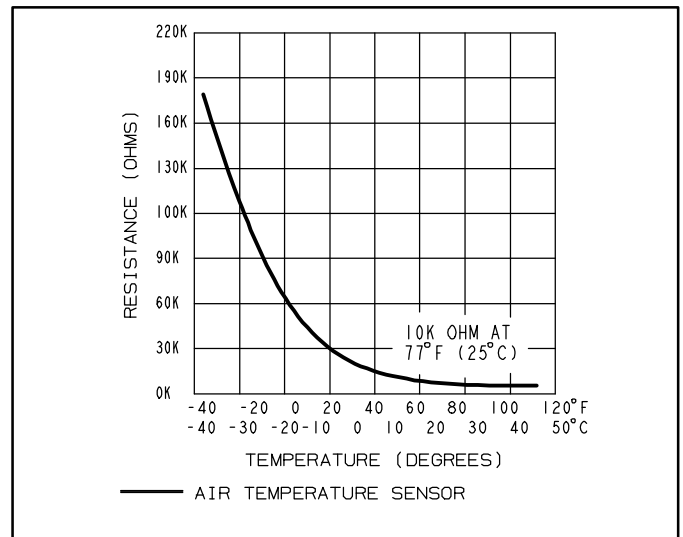

Figure 7. 10K Ohm Temperature Sensor (47W37)
- 100959-02 (47W37) is furnished with a 10K ohm nonlinear NTC temperature sensor that follows a specific temperature resistance curve as shown in figure 7.